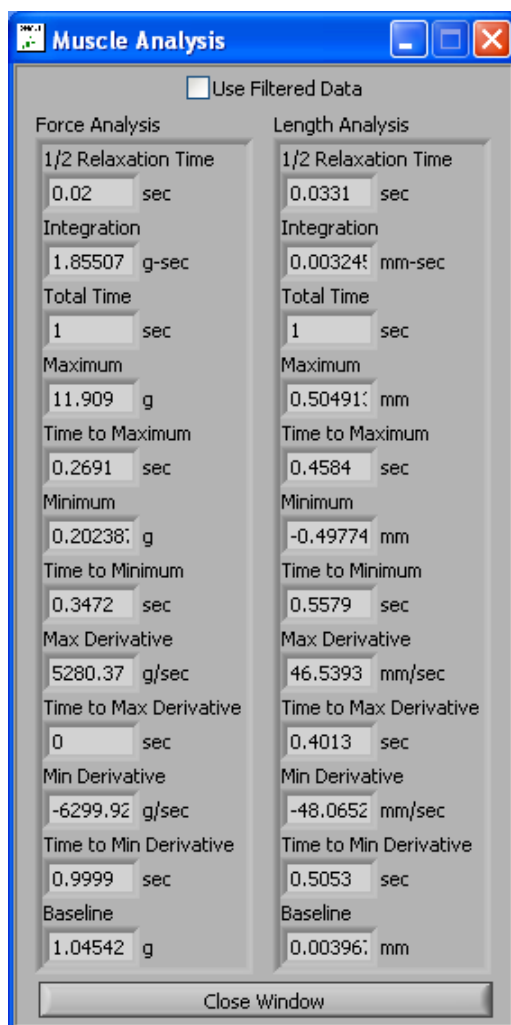

Figure 2: Muscle Analysis Window
- 10) The Muscle Analysis window shows various statistics about the displayed data, see Figure 2.